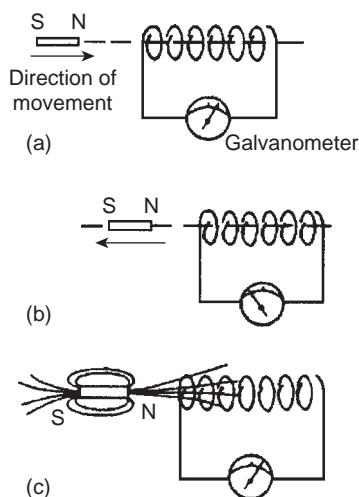

Figure 11.1
Fig. 11.1(a) shows a coil of wire connected to a centre-zero galvanometer, which is a sensitive ammeter with the zero-current position in the centre of the scale.
- When the magnet is moved at constant speed towards the coil (Fig. 11.1(a)), a deflection is noted on the galvanometer showing that a current has been produced in the coil.
- When the magnet is moved at the same speed as in (a) but away from the coil the same deflection is noted but is in the opposite direction (see Fig. 11.1(b)).
Fig. 11.1(c) shows the magnetic field associated with the magnet. As the magnet is moved towards the coil, the magnetic flux of the magnet moves across, or cuts, the coil. **It is the relative movement of the magnetic flux and the coil that causes an e.m.f. and thus current, to be induced in the coil.** This effect is known as electromagnetic induction. The laws of electromagnetic induction stated in Section 11.2 evolved from experiments such as those described above.